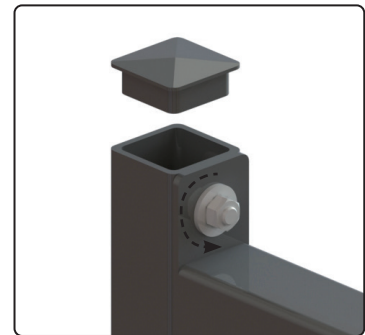

Figure 5 - Installed End Cap
8. Use a mallet to install the end caps into each vertical posts as shown in figure 5.